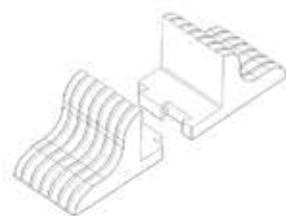

Fig.3-1 Support bases
Step 1: Take out the support bases from the accessories. Their appearances are shown in Fig.3-1.